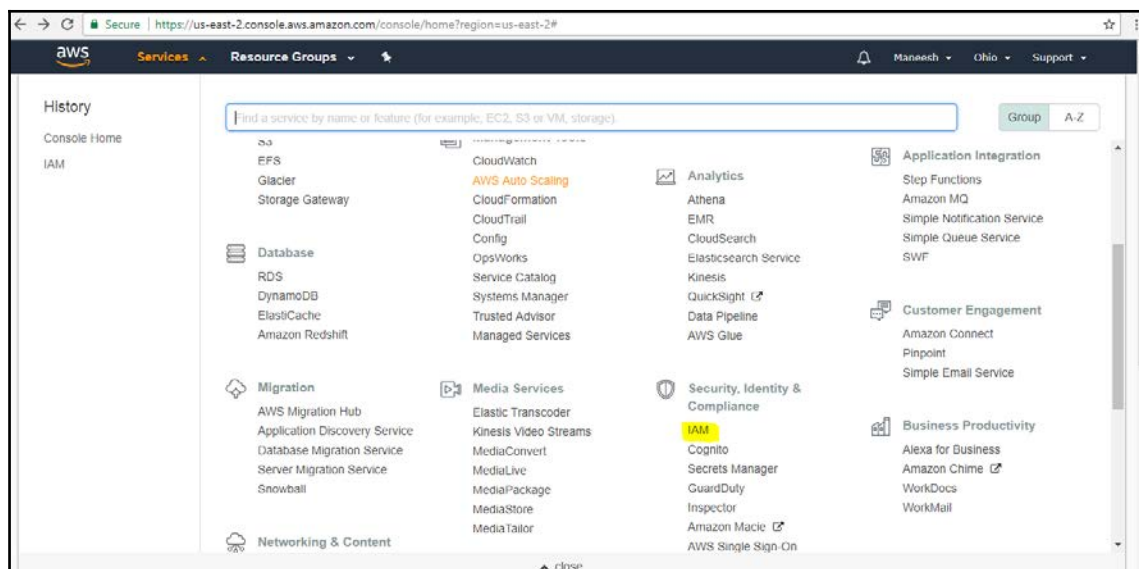

Figure 7.9
1. Log in to the AWS account in the top left and click on services, and then click on **IAM** under **Security, Identity & Compliance**, as shown in *Figure 7.9*: